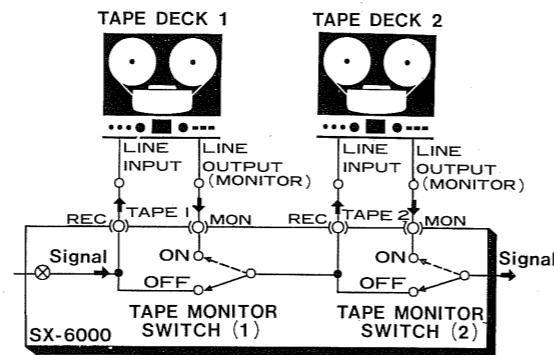

Fig. 8
As shown in Fig. 8, during playing the signal is always present at the TAPE 1 REC and TAPE 2 REC terminals. Operate the SX-6000 as explained in the articles "FM/AM Reception and Playing Records" on page 8.
As shown in Fig. 8, setting the TAPE MONITOR switch (1) to ON permits playback of the tape on tape deck 1, and setting the TAPE MONITOR switch (2) to ON permits playback of the tape on tape deck 2. During playback, volume and tone can be adjusted by the VOLUME, BASS and TREBLE controls on the SX-6000. Playback is possible irrespective of the position of the SELECTOR switch.